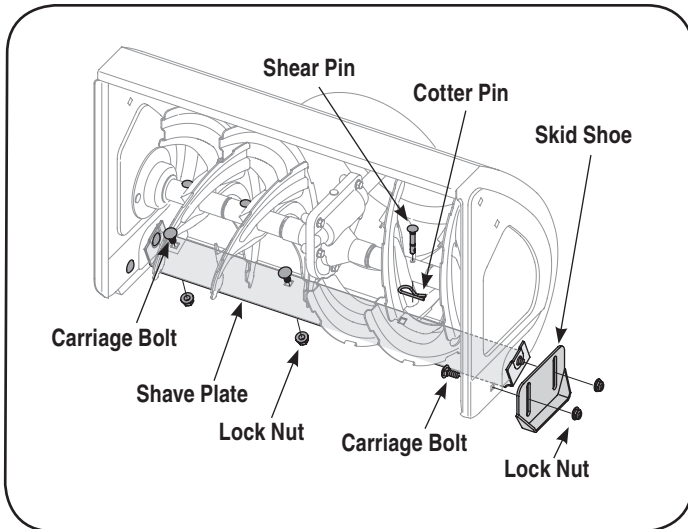

Figure 17
1. Remove two carriage bolts and nuts securing each skid shoe to the auger housing. See Figure 17.
3. Remove both skid shoes and carriage bolts and lock nuts which attach shave plate to the snow thrower housing. See Figure 17.